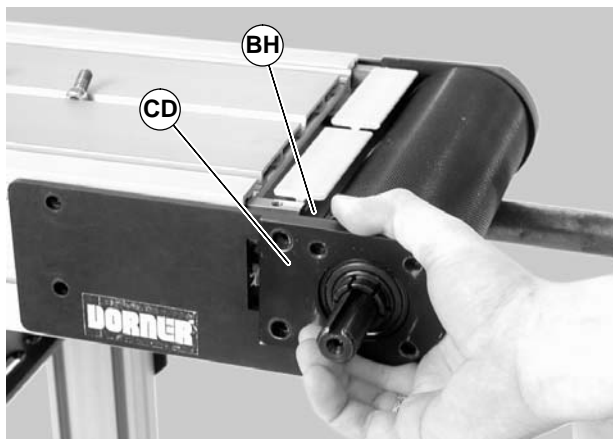

Figure 62
6. Remove the outer headplate assembly (CD of Figure 62), and inner spacer (BH).